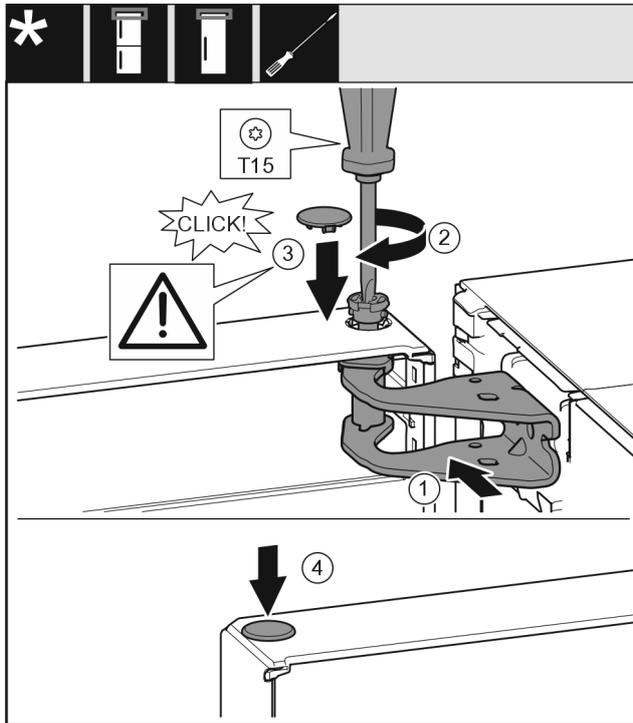

Fig. 58
- ▶ Align the top door with the opening in the swap bearing block Fig. 58 (1).
- ▶ Insert the bolt Fig. 58 (2) and use screwdriver to tighten it.
- ▶ Insert the cover Fig. 58 (3).
- ▶ Check that the cover Fig. 58 (3) is resting on the door.
- ▶ Insert the cover Fig. 58 (4).